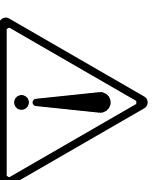

**Fig. 2**
- Observe the minimum distances between devices, between the device and the wall as given in the Fig. 2 and above the assembly (min. 800mm)